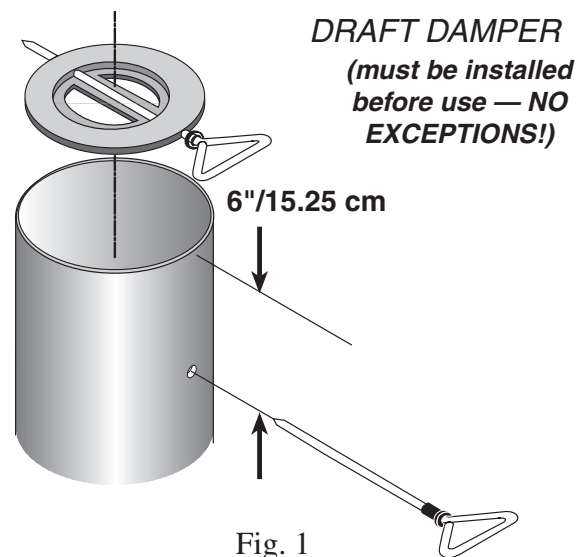

Fig. 1
1. The installation of this stove must comply with your local building code rulings. Please observe the clearances to combustibles (see reference figures 1 & 2).
4. Use 6" round black stove pipe, not galvanized stove pipe. Secure pipe sections with three (3) sheet metal screws in each stove pipe and/or elbow joint to firmly hold the pipe sections together. **DO NOT CONNECT THIS STOVE TO ANY AIR DISTRIBUTION OR DUCT SYSTEM.**
5. Recheck clearances from the stove, connector stove pipe, and corner clearances using the illustrations (figure 1 & 2) and